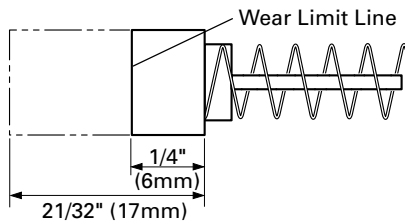
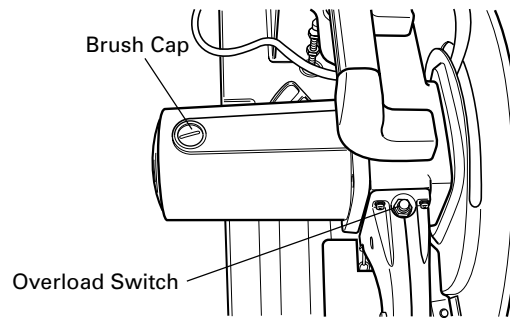

Fig. 20
Fig. 21
2. Inspecting the carbon brushes (Fig. 20 and Fig. 21)
The carbon brushes in the motor are expendable parts. If the carbon brushes become excessively worn, motor trouble might occur. Therefore, inspect the carbon brushes periodically and replace them when they have become worn to the wear limit line as shown in Fig. 20. Also, keep the carbon brushes clean so that they will slide smoothly within the brush holders. The carbon brushes can easily be removed after removal of the brush caps (see Fig. 21) with a slotted (minus) screwdriver.